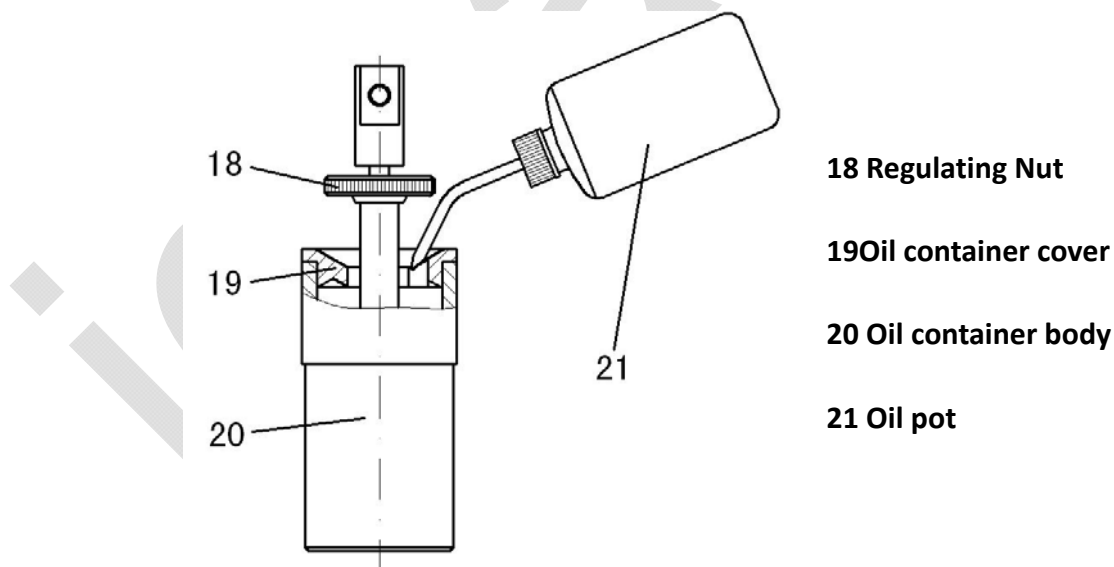

Fig 4
4.8 Method of furnish oil into the oil container (Fig 4)